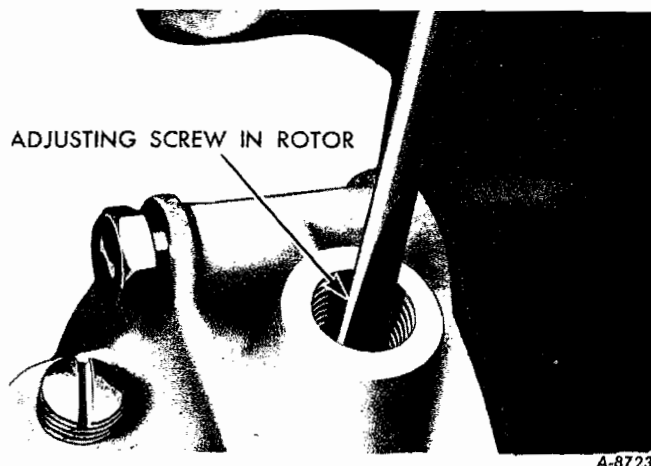

Fig. 70
4. Insert a screwdriver through the opening from which the hole plug was removed and turn the screw clockwise to increase speed or counter-clockwise to decrease engine governed speed (Fig. 70). One turn of the screw will affect the governed speed approximately 150 engine r.p.m.